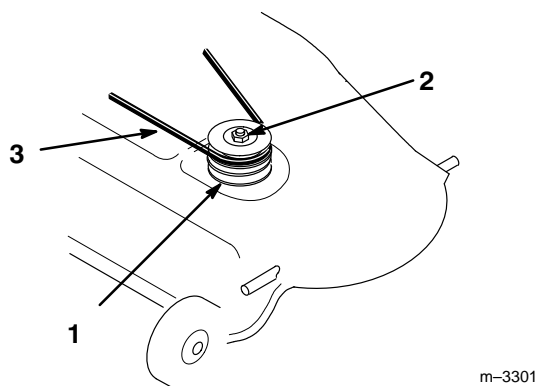

Figure 36
1. Pull on mower idler assembly to release belt tension and remove blade drive belt from right side pulley (Fig. 36).
3. Reinstall the existing blade drive belt by rotating it onto the top pulley (Fig. 36).